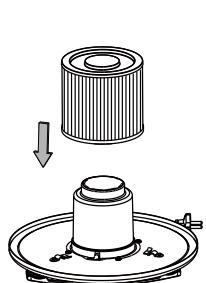

Fig 1
- Install the cartridge filter with the flat end of the filter towards the vacuum power head. Carefully push the filter until it sits flush forming a tight seal (Fig. 1).